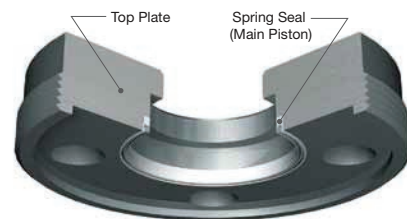

Figure 26: Top Plate (49PV07/MV07)
- a. Lubricate the Spring Seal (Main Piston) and Top Plate gland. Install the Spring Seal (Main Piston) into Top Plate. The spring should be oriented as shown in Figure 26 or 27.
- a. Lubricate the Spring Seal (Main Piston) and Top Plate gland. Install the Spring Seal (Main Piston) into Top Plate. The spring should be oriented as shown in Figure 26.